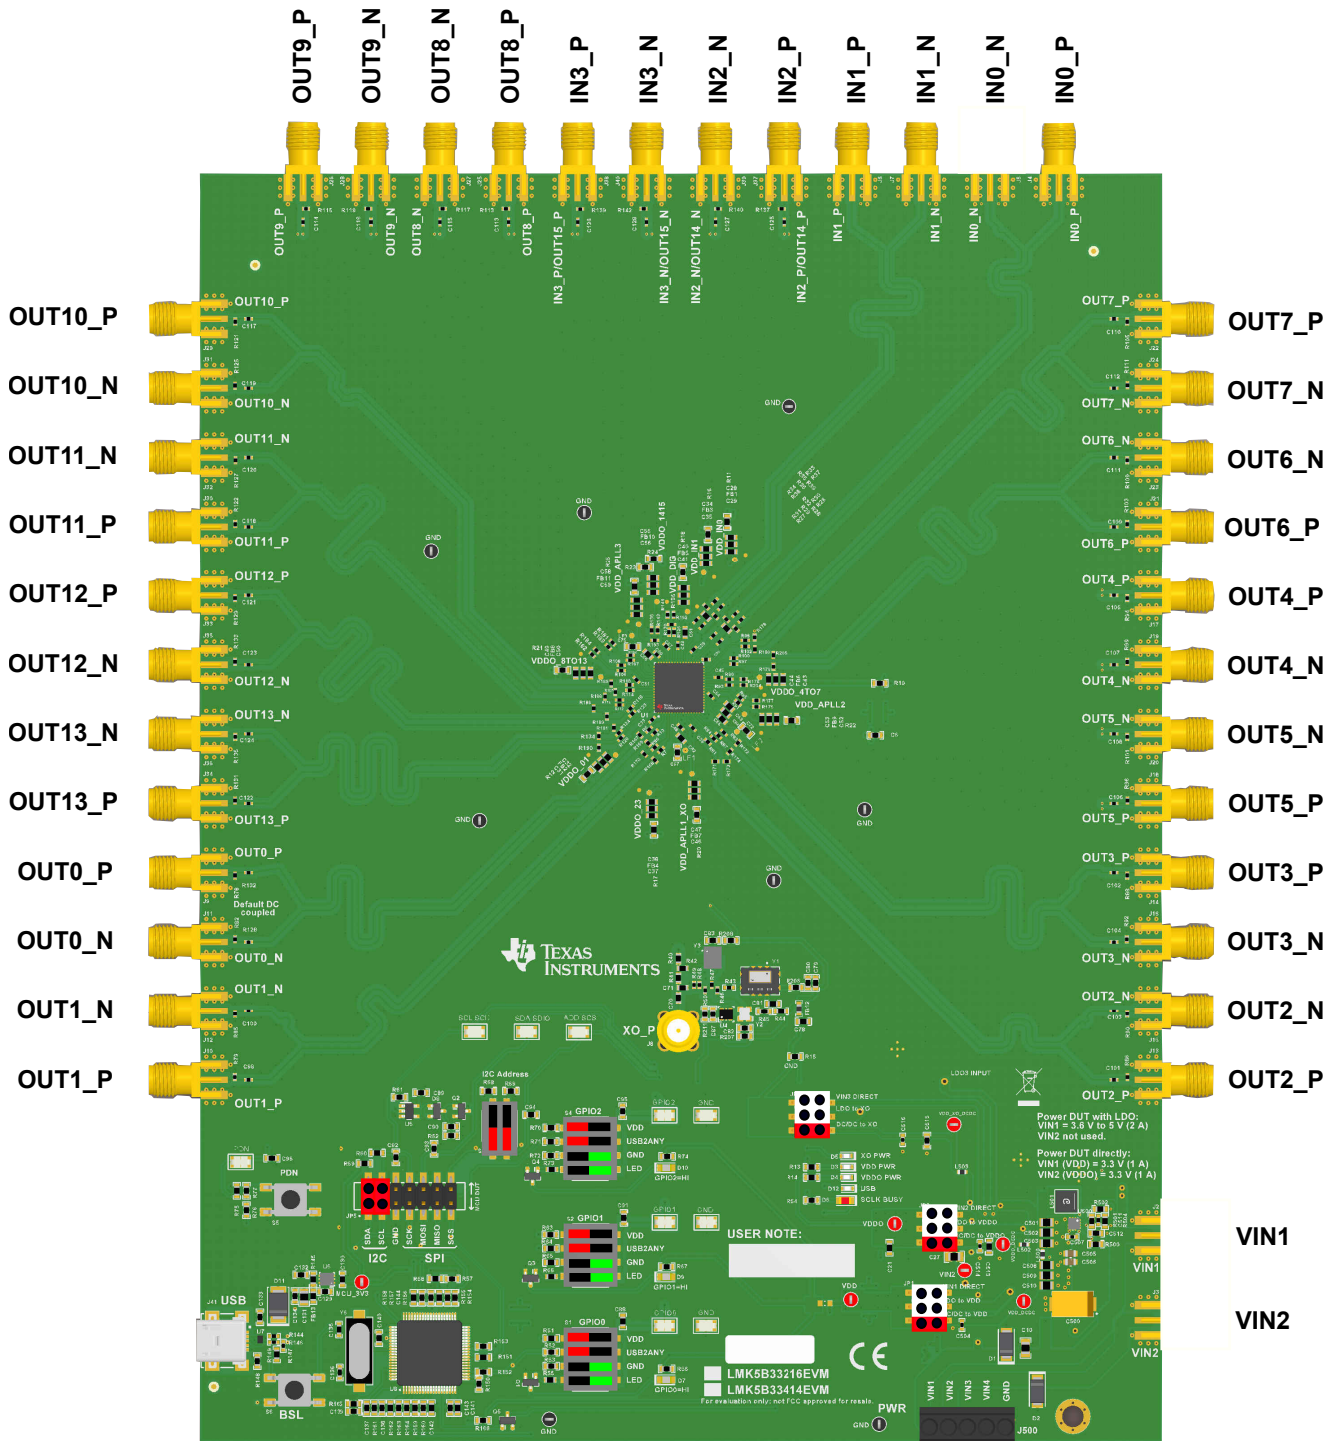

Figure 1-1. LMK5B33414EVM Default Setting of Jumpers and DIP Switches
Figure 1-1 shows the jumper position with red markings. Figure 1-1 shows the DIP switch positions in either green boxes (for ON) or red boxes (for OFF) in the appropriate location.
1. Verify the EVM default jumper and DIP switch settings shown in Figure 1-1.